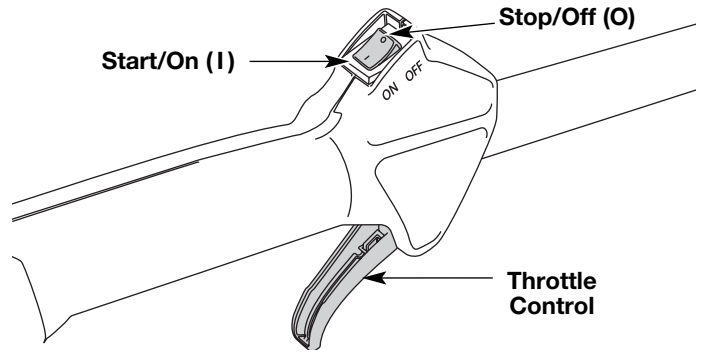

Fig. 6
NOTE: There is no need to turn the unit on. The On/Off Stop Control is in the ON (I) position at all times (Fig. 6).
2. Put the On/Off Stop Control in the OFF (O) position (Fig. 6).